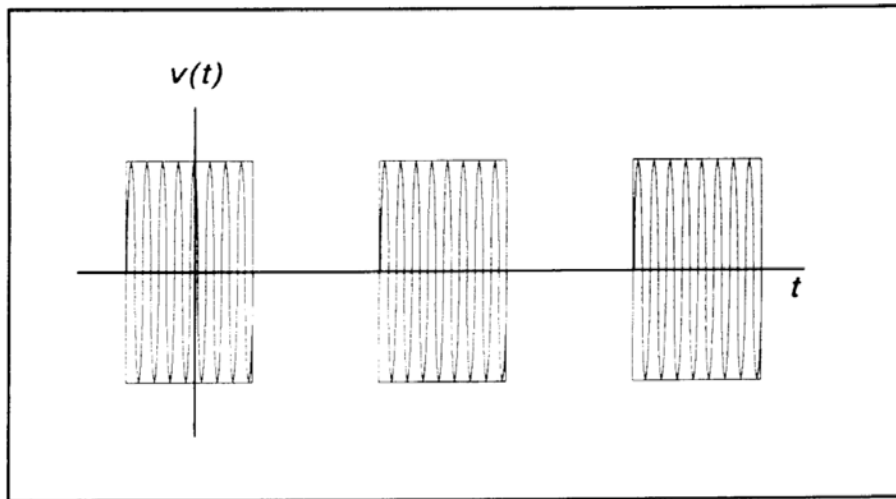

Figure 5.1 Pulsed RF Signal
Pulse power refers to power measured during the on time of pulsed RF signals figure 5.1. Traditionally, these signals have been measured in two steps: (1) thermoelectric sensors measure the average signal power, (2) the reading is then divided by the duty cycle to obtain pulse power, P_{pulse} :